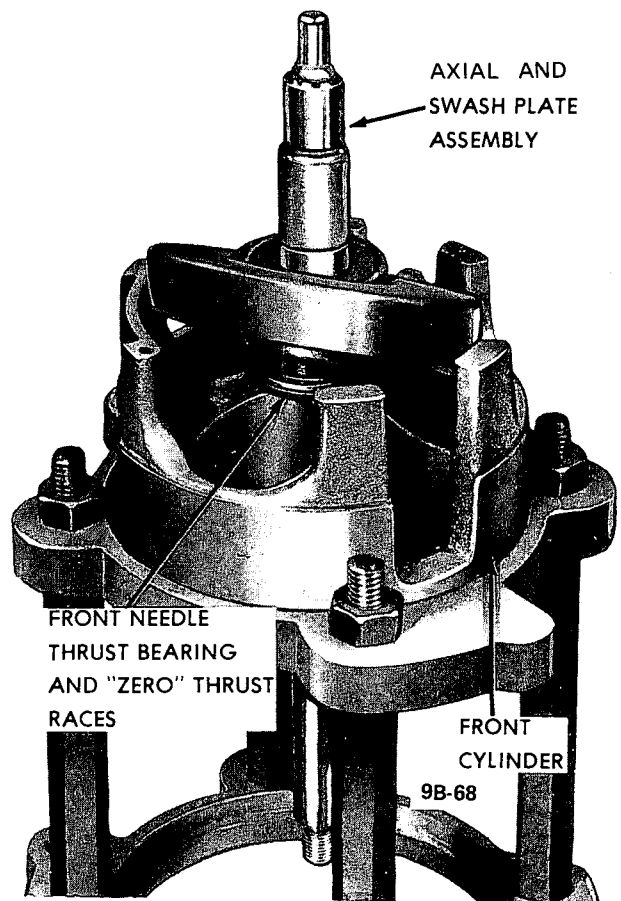

Figure 9B-94 Shaft and Front Needle Thrust Bearing in Cylinder Half - 6 Cylinder Compressor
3. Generously coat with clean No. 525 Viscosity Oil two "zero" thrust races, and a new needle thrust bearing. Assemble races and bearing to front end of shaft and axial plate assembly and insert assembly into front cylinder (see Figure 9B-94.)